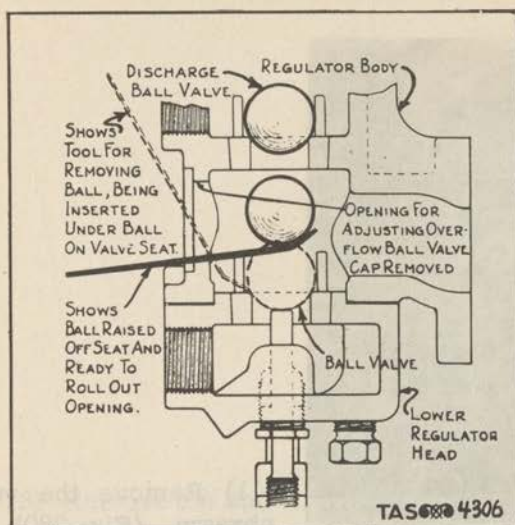
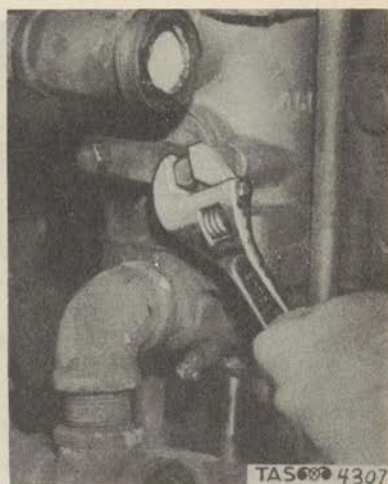

Figure 278. Method of Removing Lower Valve Ball.
Figure 279. Removal of Truss Clamps.
(10) Remove the lower valve ball from the pressure regulator and unloading valve. This is done by removing the truss clamp (fig. 279) and the head (fig. 249), thus exposing the lower (overflow) ball valve (fig. 223). A special tool is furnished to remove this ball. The end of the tool is inserted underneath the valve ball, and the tool tilted so that the ball will roll out through the opening. (Fig. 278)